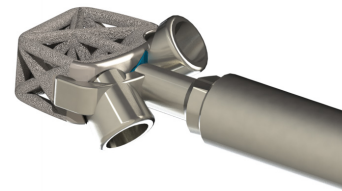

Figure 6.1
- ▲ Attach the implant to either the Guided Inserter or Freehand Inserter depending on preferred technique (Fig. 6.1 and 6.2).